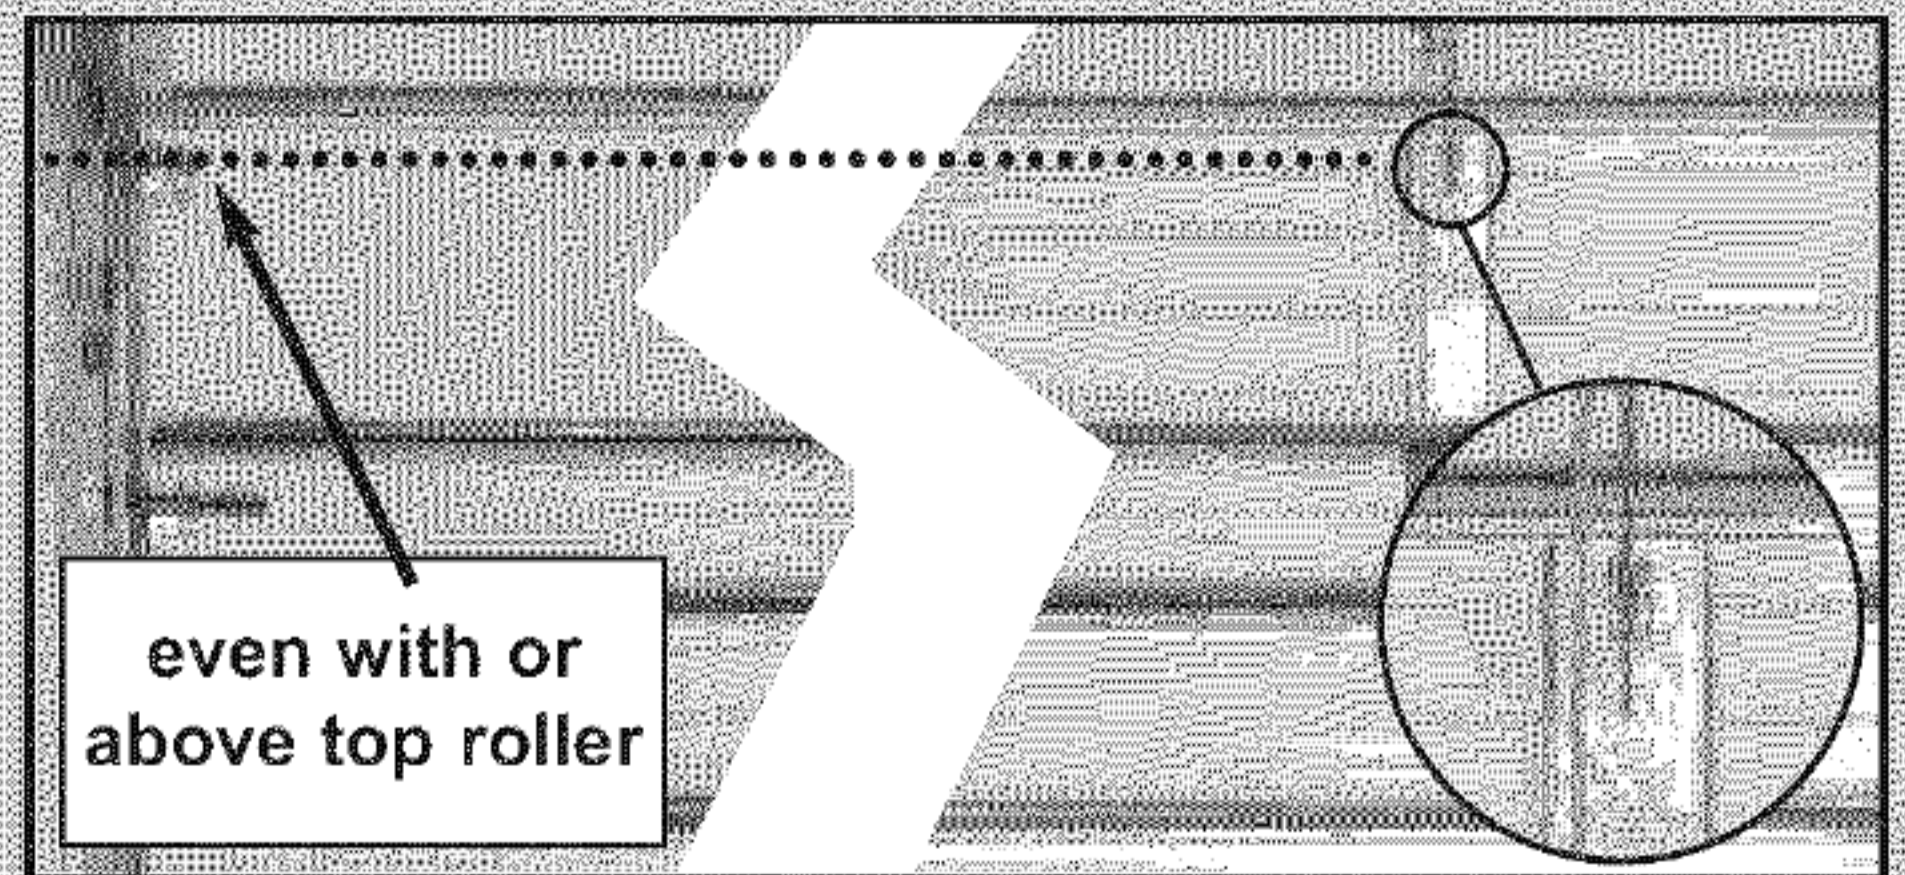

FIG. 2-7 Mounting door Bracket (sectional)
**NOTE:** In the case of sectional type doors, door bracket must be mounted **NO LOWER THAN** top set of rollers (Fig. 2-7).
- Position rail/power head assembly (**Fig. 2-7**).